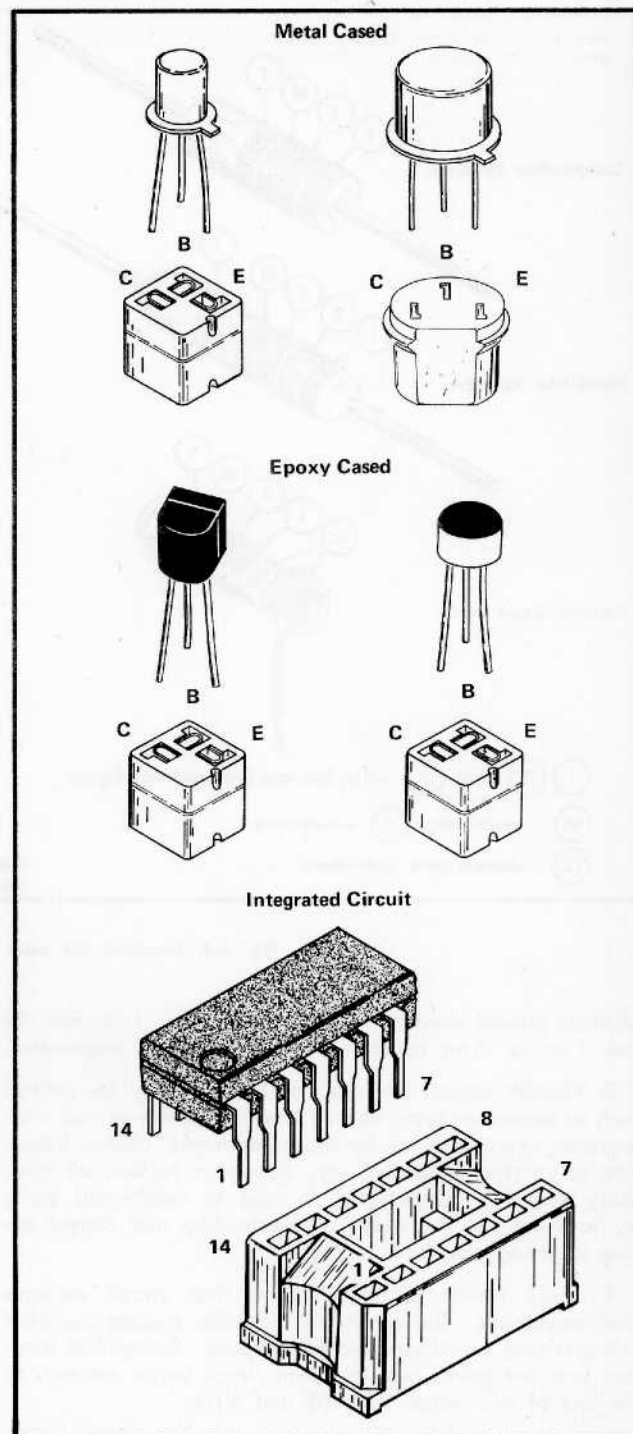
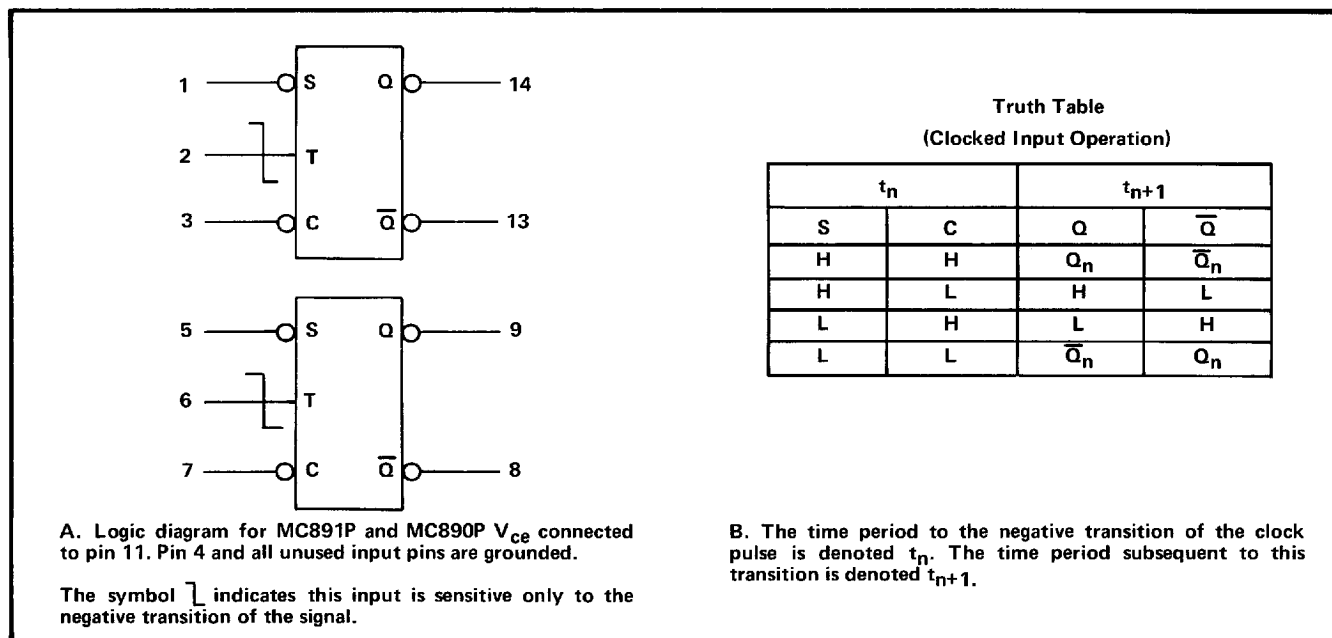

Fig. 4-4. Lead configuration for socket mounted transistors and IC's used in the 2901.
Fig. 4-7. Data for the J-K flip-flop IC's used in the 2901. (In this instrument, pins 1 and 3, 13 and 14, are the reverse of the manufacturers data sheet.)
Electrode Configuration for Socket Mounted Transistors and Integrated Circuits. Lead identification for the transistors and IC's is shown in Fig. 4-4.
4. Be sure the component is inserted properly in the socket (see Fig. 4-4).
Integrated Circuit (IC) Checks—Integrated circuits are most easily checked by direct replacement. When substitution is impossible, check input and output signal states as described in the circuit description and on the diagram. Lead configuration and data for the IC's used in this instrument are shown in Figs. 4-4 through Fig. 4-7.
- d. Remove the screw holding the top of the coupling strap between the upper and lower switch extrusion bar, see Fig. 4-4.